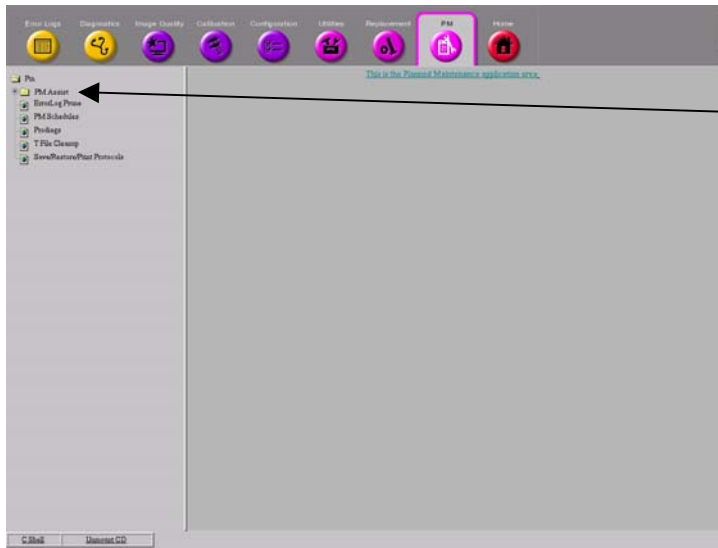

Figure 14a
26. Click on the PM folder in the left column of the PM main page to expand the folder and show the PM selections. See Figures 14a, 14b, 15a and 15b.